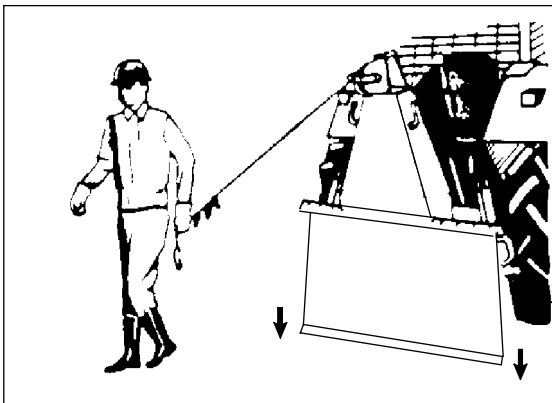

Fig. 9. Anchor the dozer blade to the ground.
- Park the winch and tractor on level, stable ground. Lock the brakes of the tractor before winching. Lower the 3-point hitch so that the dozer blade anchors the winch to the ground. See fig. 9.